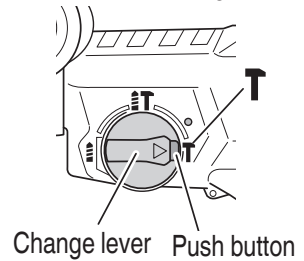

Fig. 19
This rotary hammer can be set to hammering only mode by pressing the push button and turning the change lever to the **T** mark (Fig. 19).
- (3) Turn the change lever to **T** mark (Fig. 19).